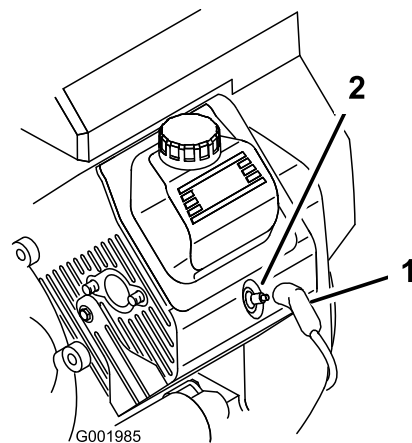

Figure 52
- Pull the wires off the spark plugs (Figure 52).
3. Push the wires onto the spark plugs (Figure 52).